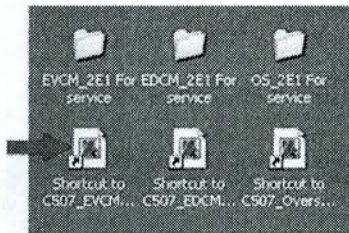

Figure 17
2.18. Double click on the "EVCM 2E1" shortcut on the desktop (arrow, Figure 17) to open the calibration tool.